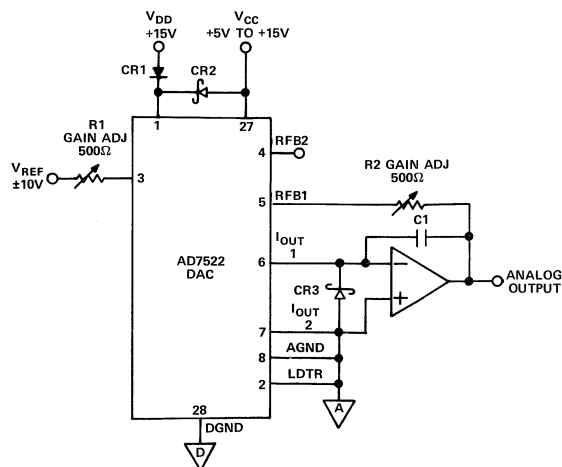
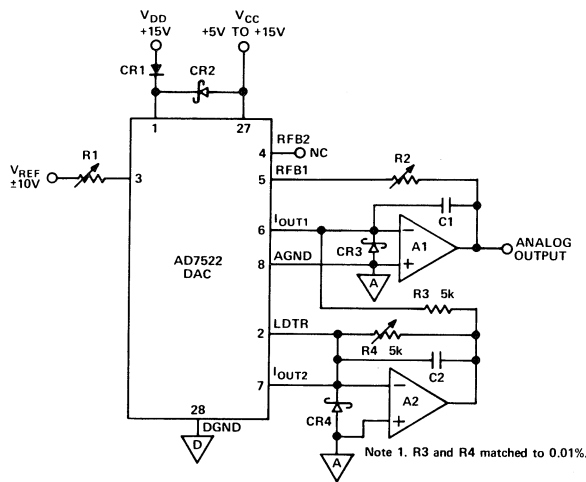

Figure 3. Unipolar Binary Operation (2-Quadrant Multiplication)
Figure 4. Bipolar Operation
Figure 3 shows the analog circuit connections required for unipolar operation. The input code/output voltage relationship is shown in Table 1.
Figure 4 shows the analog circuit connections required for bipolar operation. The input code/output voltage relationship is shown in Table 2.
1. CR1 and CR2 on Figures 3 and 4 protect the AD7522 against latch-up V_{CC} exceeds V_{DD} , and may be omitted if V_{DD} and V_{CC} are driven from the same voltage.
2. Diodes CR3 on Figure 3 and CR3 and CR4 on Figure 4 clamp the amplifier junction to $-300mV$ if they attempt to swing negative during power up or power down. The input structures of some high-speed op amps can supply substantial current under the transient conditions encountered during power sequencing. It is recommended that the PC layout be able to accommodate the diodes.